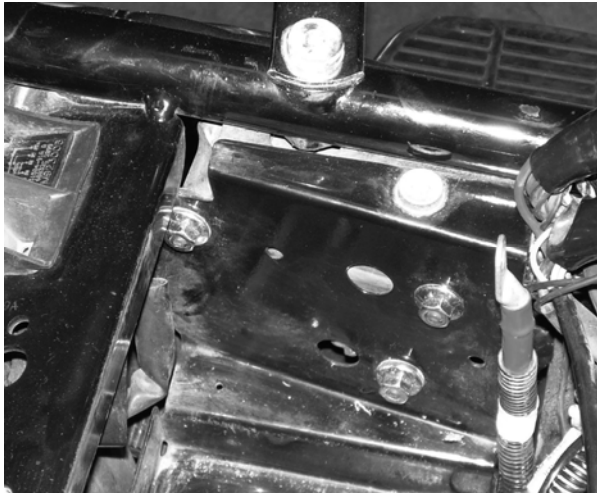
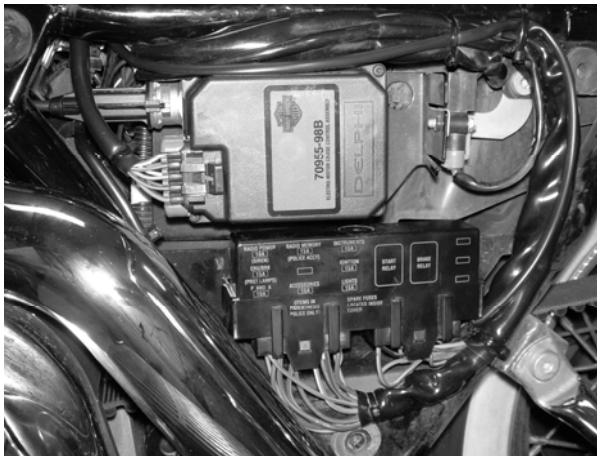

Figure 1. Mounting of Cruise Control Module
Figure 2. Cruise Control Module Mounting
3. See Figure 1 and Figure 2. Mount cruise control module on outside of battery box using the three grommets and nuts included in the
7. Feed cruise control wiring harness (CCWH) from kit up between frame and battery box (starting at the cruise control module location), along main wiring harness (where you cut the cable tie in step 6), and towards the front of the motorcycle, entering the headlight cowl on the rear right side. The single orange/violet wire will be fed back over top the cruise control module, along two other wiring harnesses, and follow the route of the harness that goes down to the fuse/relay block (see Figure 2).